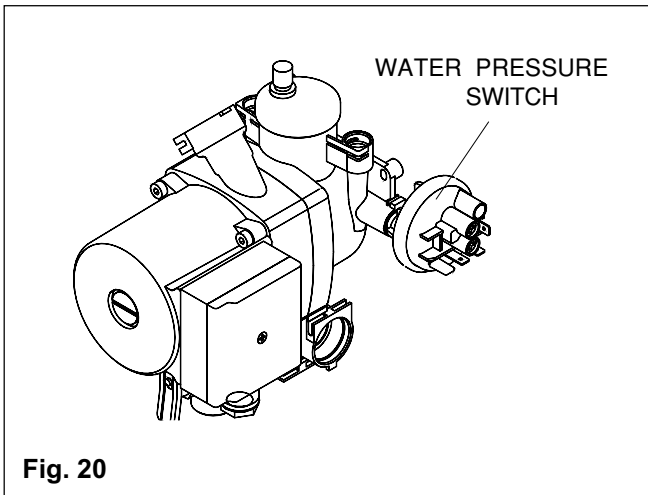

Fig. 20
6.9 WATER PRESSURE SWITCH fig. 20